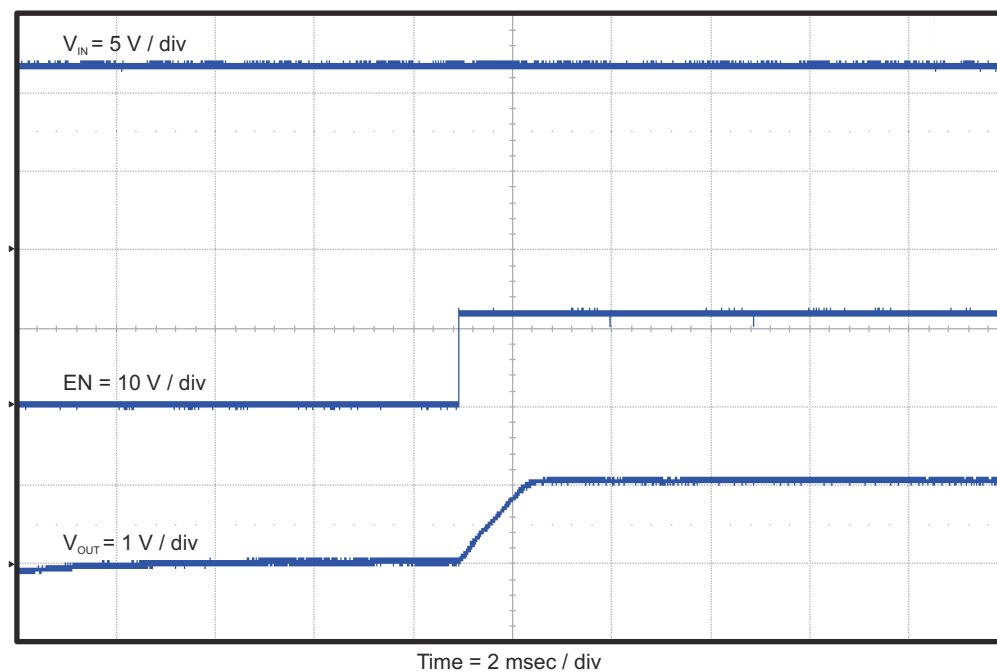

Figure 4-9. TPS54429EVM-608 Start-Up Relative to EN
The TPS54429EVM-608 start-up waveform relative to enable (EN) is shown in Figure 4-9.